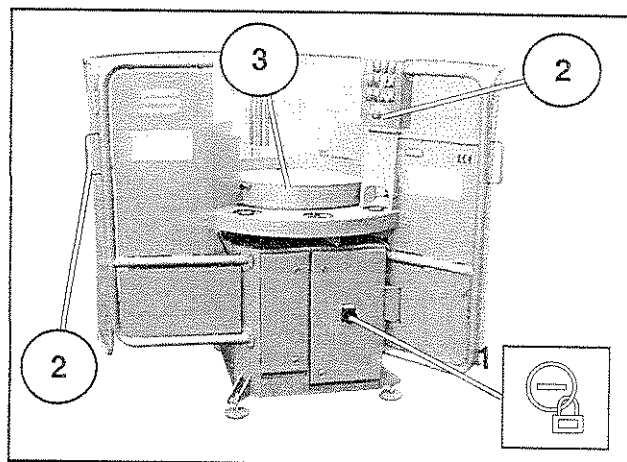

Fig. 10
Always switch off and padlock the main power switch (Fig. 10) of the machine before cleaning takes place.
1. Turn 'OFF' and padlock the main power switch (Fig. 10/1).
2. Open covers/cage (Fig. 10/2).
3. Lift up the product table (Fig. 10/3).
5. Close covers/cage (Fig. 10/2).